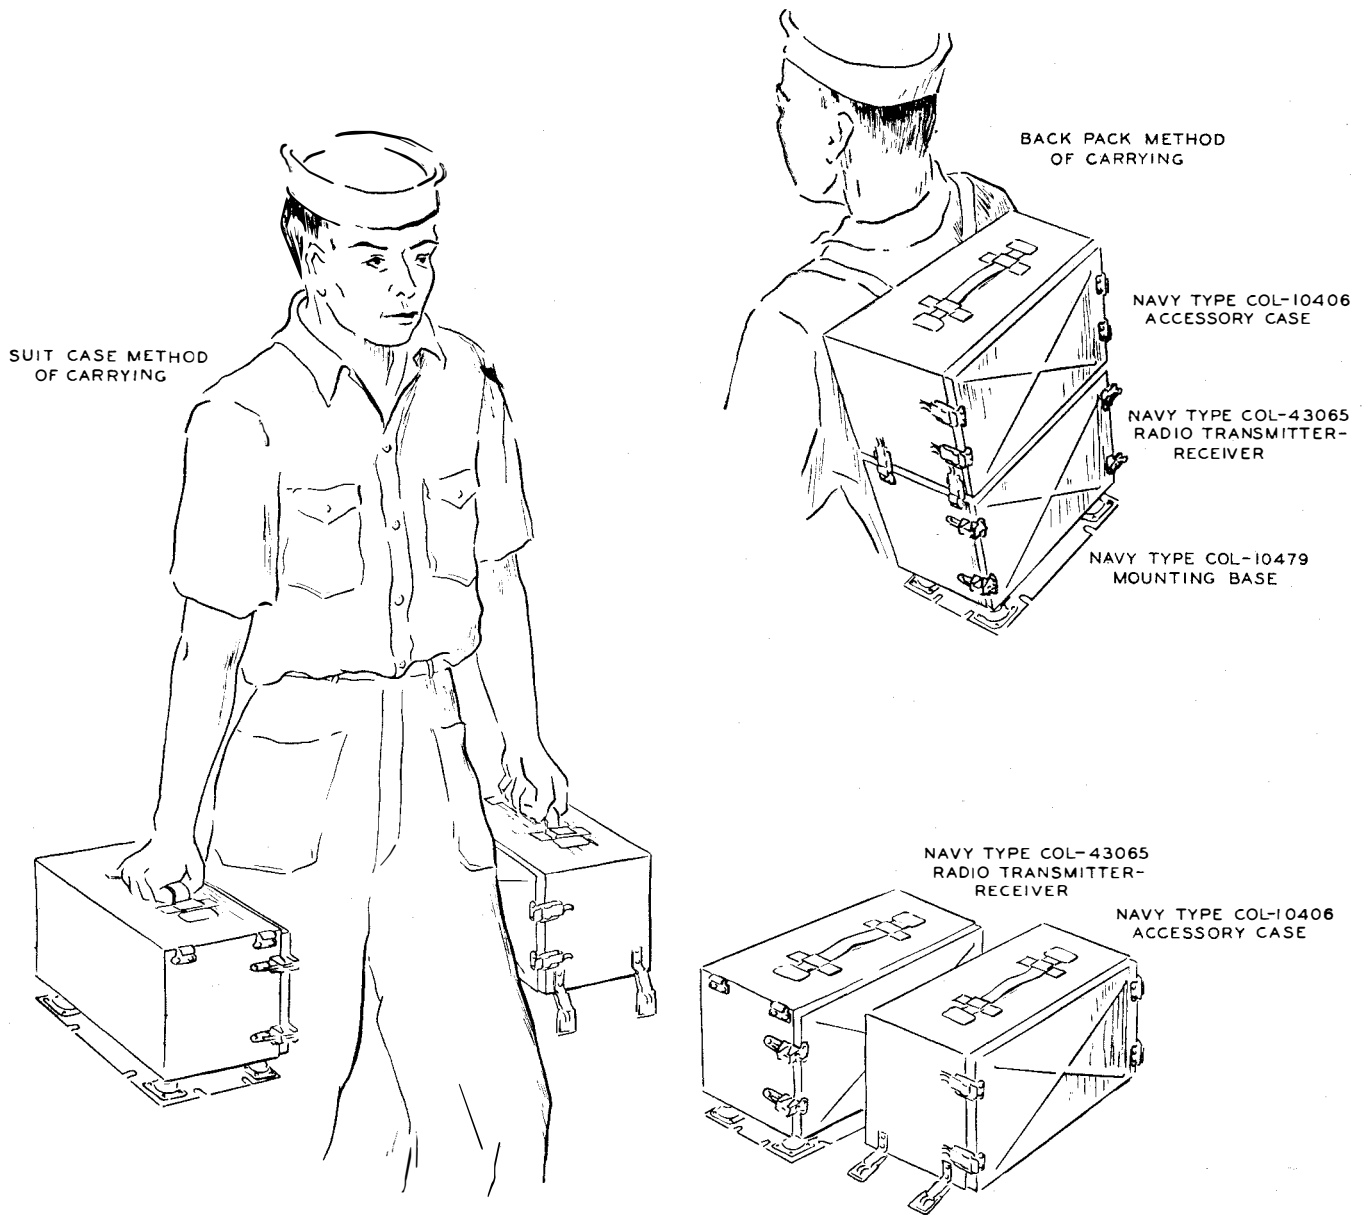

Figure 2-3—Methods of Carrying Equipment
(6) Close the power switch by advancing the VOLUME control from the OFF position. The panel POWER ON light should glow, indicating that voltage is being applied to the equipment. The panel light shutter must be open. Rotate the knurled edge counterclockwise to open the shutter.
(7) Insert the tuning meter cord plug into the METER JACK.
(8) Refer to paragraph 2., page 2-4 of this section and check the tuning and output of the transmitter.
(9) Press the PRESS TO TALK—RELEASE TO LISTEN switch; the CARRIER ON panel light should glow. The panel light shutter must be open. Rotate the knurled edge counterclockwise to open the shutter.
(10) Assuming that the transmitter is properly tuned and that the output is normal, check the modulation by speaking into the transducer. Modulation is evidenced by an increase in the brilliancy of the CARRIER ON panel light. Due to the dual use as loud speaker and microphone, the panel mounted loud speaker is referred to as a transducer.
(11) Insert the handset cord connector into the receptacle labeled HANDSET.
(12) Press the Push-to-Talk button on the handset and speak into the handset transmitter. Modulation should occur, being indicated as before by the increased brilliancy of the CARRIER ON panel light.
(13) Press the PRESS TO CUT SQUELCH button. If the receiver is functioning properly and the VOLUME control is fully advanced, a marked rise in noise level will occur. With the exception of the VOLUME control, no operational adjustments are necessary when receiving. Refer to paragraph 2., page 2-4 of this section for the method of tuning the receiver.
c. METHODS OF CARRYING EQUIPMENT. (Refer to figure 2-3.)—The transmitter-receiver and the accessory case have handle straps attached for the suitcase method of carrying the equipment. Adjustable shoulder straps are furnished for back pack method of carrying. Two rings on the back of each cabinet receive the snap fasteners. The two units should be locked together before attaching the shoulder straps. The handle and shoulder straps are constructed of waterproof, fungi resistant, cotton webbing.